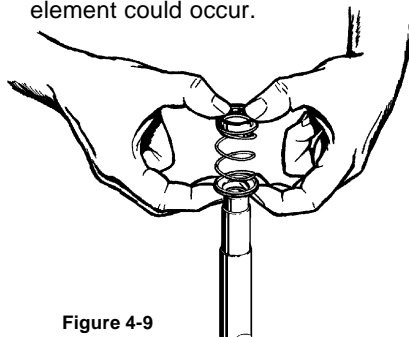
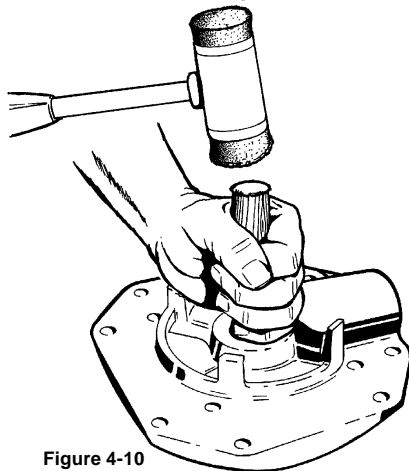

Figure 4-9
Figure 4-10
19. Remove the Seal Rotating Element (#12) from the shaft. Refer to Figure 4-9. The element normally adheres tightly to the shaft, and some force may be necessary to remove it. This is common, and if care is taken, the element can be reassembled and reused. **It is recommended that a new rotating element be used for reassembly.** DO NOT attempt to remove the seal using a screwdriver or other sharp object. Extensive damage to the shaft or element could occur.
21. Remove the Seal Stationary Seat (#125). Refer to Figure 4-10.
18. Remove the Seal Rotating Element (#12) from the shaft. Refer to Figure 4-9. The element normally adheres tightly to the shaft, and some force may be necessary to remove it. This is common, and if care is taken, the element can be reassembled and reused. **It is recommended that a new rotating element be used for reassembly.** DO NOT attempt to remove the seal using a screwdriver or other sharp object. Extensive damage to the shaft or element could occur.
20. Before the Inlet Cover (#1 or #1IN) can be removed, the four (4) Guide Rod "O"rings (#8) must be removed.
21. Remove the stationary seat (#125). Refer to Figure 4-10.